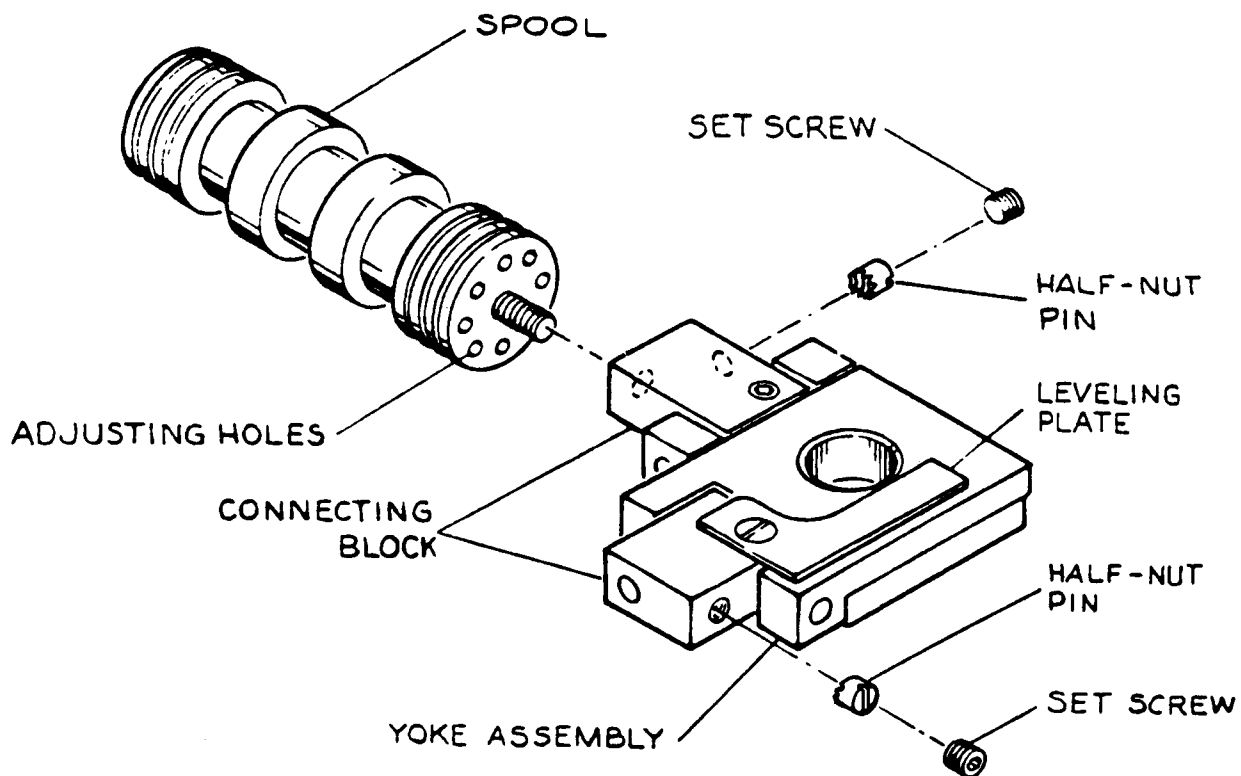

Figure 9. 360 Feed Rate Setting
The Valve Spool (3) has a 5/16-24 right-hand thread formed on the shank, which is inserted into the Connecting Block (6). The bore in the connecting block is straight (no threads) but a close fit to the O.D. of the threads on the shank of the spool. Half-Nut Pin (8) has a mating female thread, formed on its end at 90° to its axis, which engages the threads on the shank of the spool. See figure 9, 360 Feed Rate Setting.